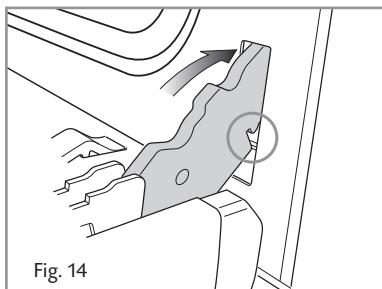

Fig. 14
2. Insert the hinge tongues into the slots, making sure that the groove drops into place as shown in the figure 14.